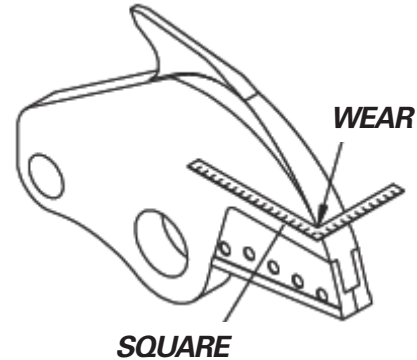

FIGURE 7-25
3. To determine how much build up is required on the front edges of the upper shear, place a square along the sides and front of the upper shear. If the edges are worn, there will be a gap indicating how much build up is required (see Figure 7-25).